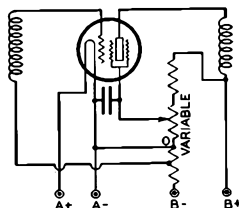

Fig. 32
*Screen voltage variation* for the r-f amplifier stages is sometimes used for volume control of the receiver. Reduced screen voltage lowers the mutual conductance of the tube and results in decreased gain per stage. The voltage variation is obtained by means of a potentiometer shunted across the screen voltage supply. See Fig. 32.